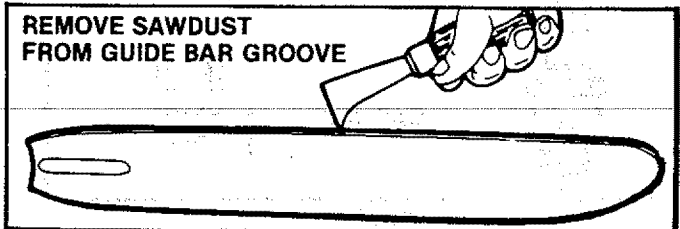

Figure 43
- c. Remove sawdust from the guide bar groove periodically with a putty knife or a wire. Figure 43.